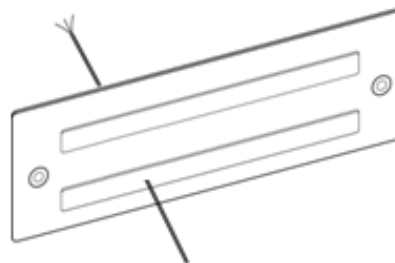

Figure 11 Schematic Diagram of a Feeding the Audio Output Cable through the Protective Terminal Cover
- a. Strip one end of the prepared audio output cable jacket by 10mm, and feed the cable through the protective cover of the power amplifier, as shown in Figure 11.